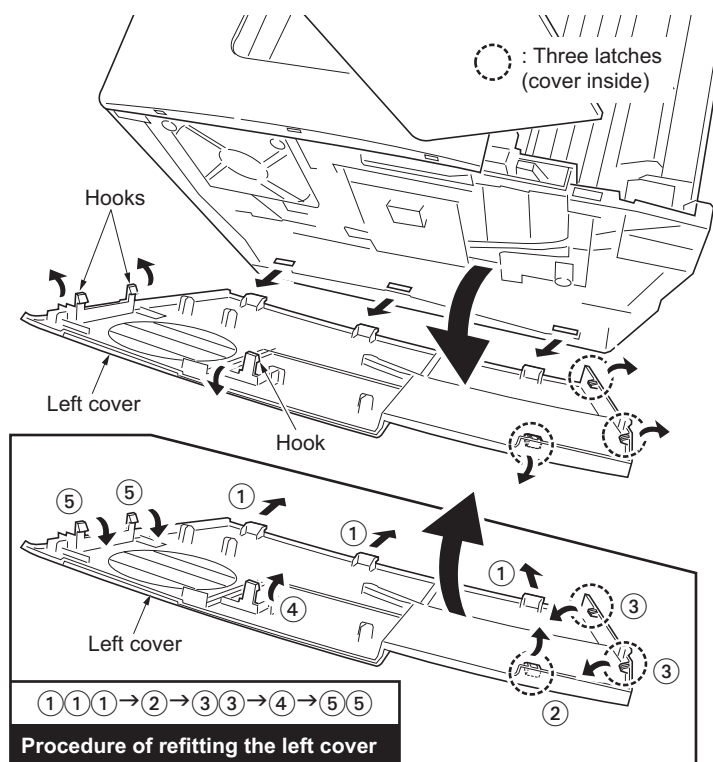

Figure 1-6-3 Removing the left cover
- * When refitting the left cover, attach in order (① to ⑤) shown in a figure 1-6-3.